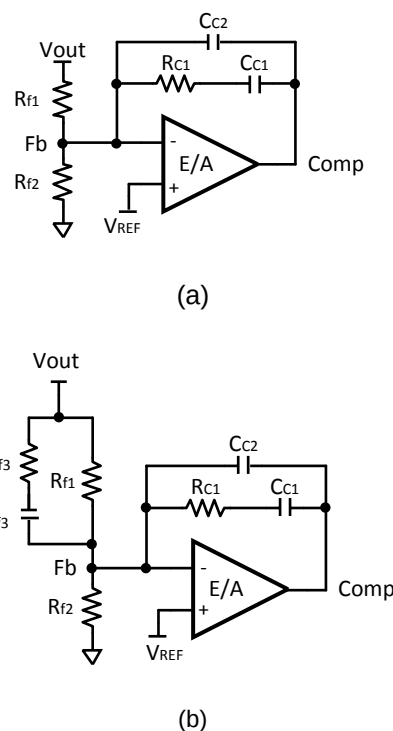

Figure 5 Loop Compensator (a) Type II, (b) Type III
Two types of compensators are commonly used: Type II (PI) and Type III (PID), as shown in Figure 5. The selection of the compensation type is dependent on the ESR of the output capacitors. Electrolytic capacitors have relatively higher ESR. If the ESR pole is located at the frequency lower than the cross-over frequency,  $F_C$ , the ESR pole will help to boost the phase margin. Thus a type II compensator can be used. For the output capacitors with lower ESR such as ceramic capacitors, type III compensation is often desired.